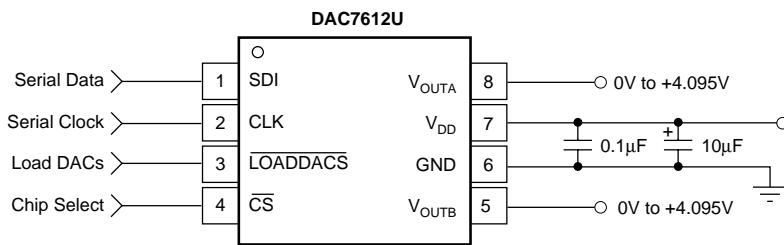

FIGURE 1. Basic Operation of the DAC7612.
The DAC7612 is a dual, 12-bit digital-to-analog converter (DAC) complete with a serial-to-parallel shift register, DAC registers, laser-trimmed 12-bit DACs, on-board reference, and rail-to-rail output amplifiers. Figure 1 shows the basic operation of the DAC7612.
Figure 1 shows the basic connection between a microcontroller and the DAC7612. The interface consists of a Serial Clock (CLK), Serial Data (SDI), and a Load DAC signal (LOADDACS). In addition, a chip select (CS) input is available to enable serial communication when there are multiple serial devices. Loading either DAC A or DAC B is done by shifting 14 serial bits in via the SDI input. The first 2 bits represent the address of the DAC to be updated and the
The DAC7612 power supply should be bypassed as shown in Figure 1. The bypass capacitors should be placed as close to the device as possible, with the 0.1 $\mu$ F capacitor taking priority in this regard. The "Power Supply Rejection vs Frequency" graph in the Typical Performance Curves section shows the PSRR performance of the DAC7612. This should be taken into account when using switching power supplies or DC/DC converters.